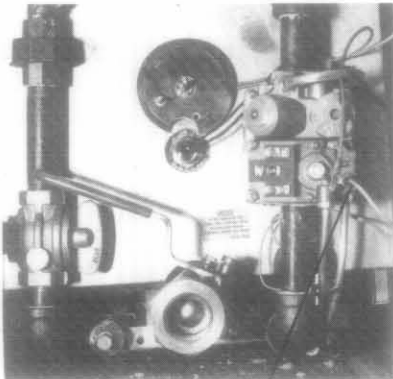

Fig. 3
- 1) Disconnect pilot generator wires from the top of the gas valve. See Figure 3.